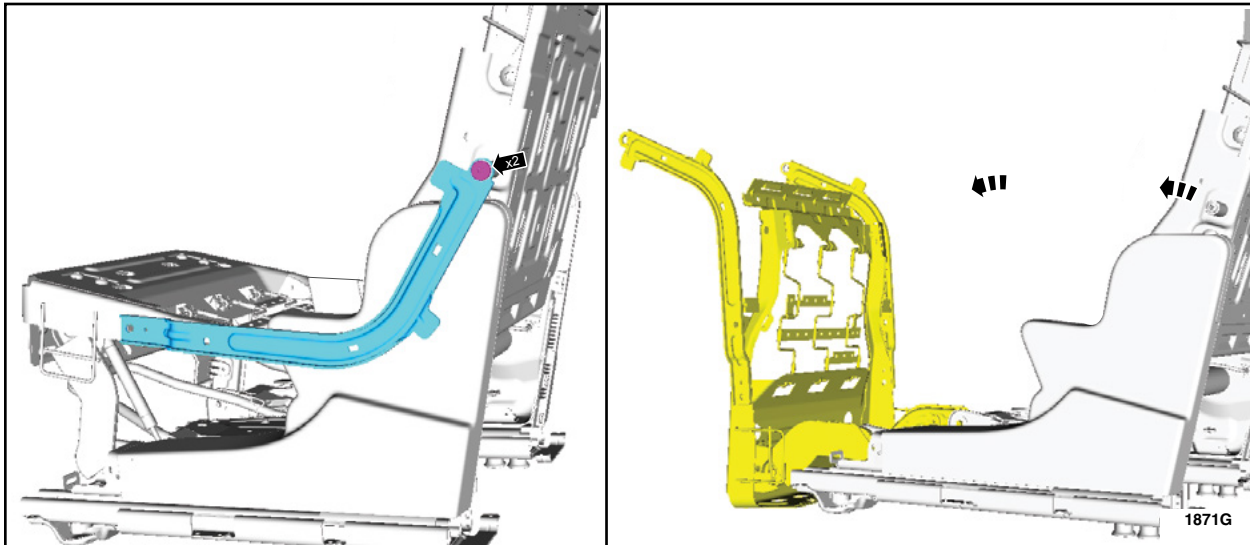

FIGURE 7
8. On both sides, remove the seat cushion frame pivot arm retainer from the seat backrest frame and position the seat cushion frame forward. See Figure 7.
24. Position the seat cushion frame rearward toward the seat backrest frame and install the retainers. See Figure 7.